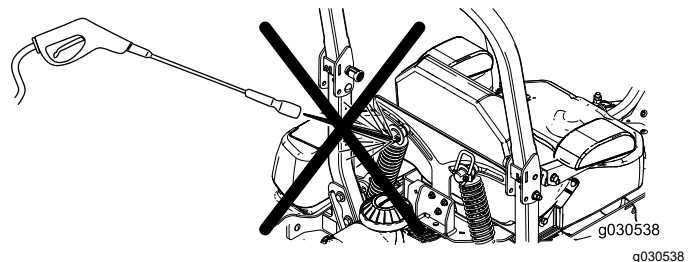

Figure 113
**Note:** Do not clean the shock assemblies with pressurized water (Figure 113).